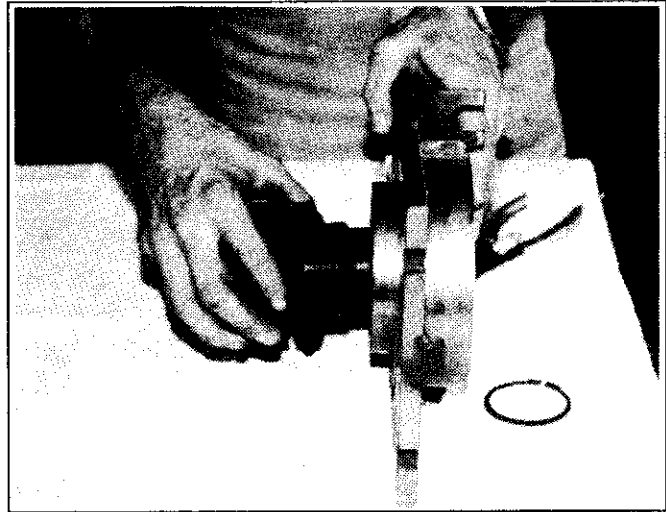

Figure 6-9
15. Push input shaft out toward chain drive side of mounting plate. (See figure 6-9)